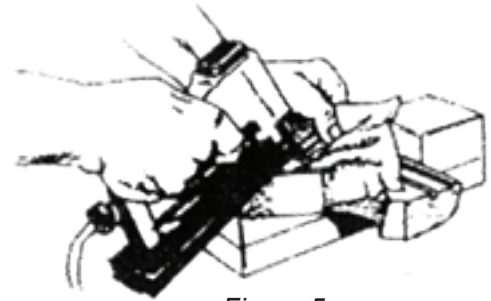

Figure 5
7. Turn the rail over and at the corner pockets fold the cloth over the mitered edge as shown in Figure 5, stretching the cloth tightly and working out the wrinkles as you staple in the area shown in Figure 5.